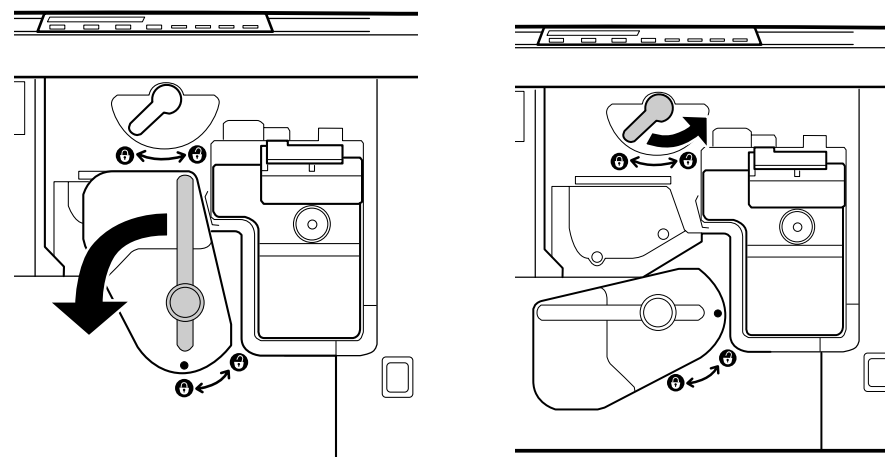

Figure 6-12. DRUM CARTRIDGE Replacement 1
3. Turn the TENSION LEVER in the direction indicated with the arrow. (See the left of Figure 6-12 below.)
4. Turn the DRUM CARTRIDGE LEVER in the direction indicated with the arrow. (See the right of Figure 6-12 below.)